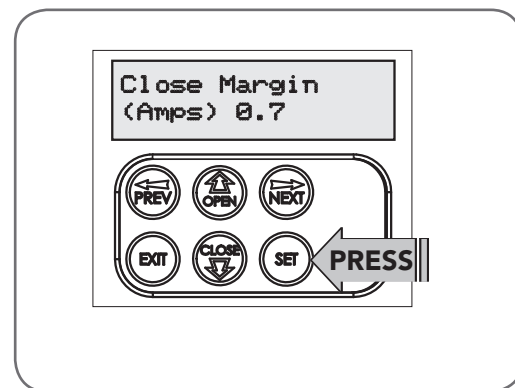

Fig 9.3
3. MENU 2.1: CLOSE Margin is displayed (**Fig. 9.3**).